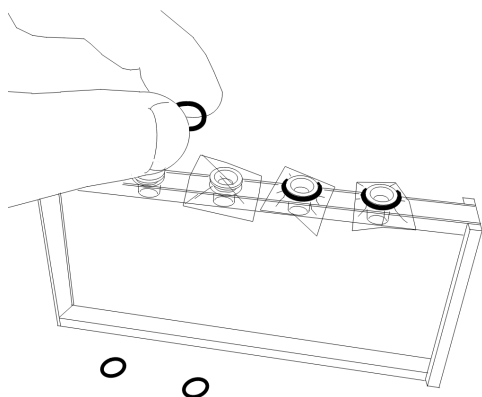
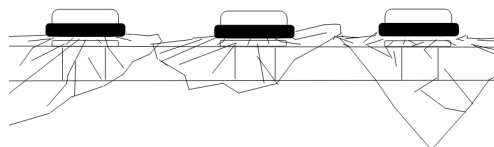

Fig. 1
Fig. 2
4. Cover each of the tubelike holes with the film by fastening it with an O-ring. Make sure to reduce the wrinkling as much as possible (See Fig. 1, Fig. 2).